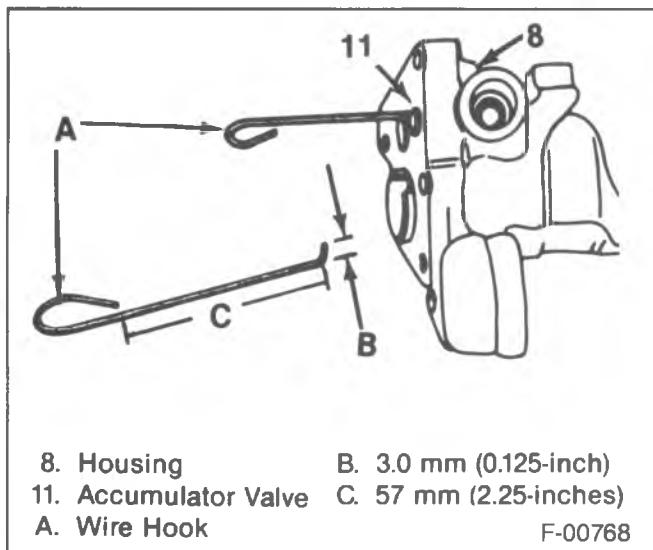

Figure 4—Removing the Accumulator Valve
5. Retainer (26).
6. Output pushrod (28), baffle (27), piston return spring (25) and retainer (24).
- Saw off the eyelet of the pedal rod (20).
7. Boot (19).
8. Nut (18) and bracket (17).
9. Bolts (9).
- Separate the cover (16) from the housing (8).
11. Piston assembly (22) and seal (23).
12. Spool valve (13).
13. Accumulator valve (11) (figure 4).
14. Return line fitting (12) and seal (10).